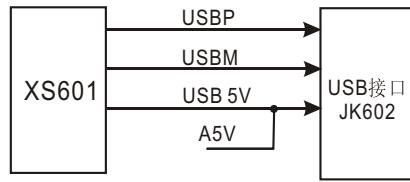

Figure 3.2.13.1 USBjack circuit blockdiagram
1. USB jack circuit block diagram is shown in the figure 3.2.13.1: